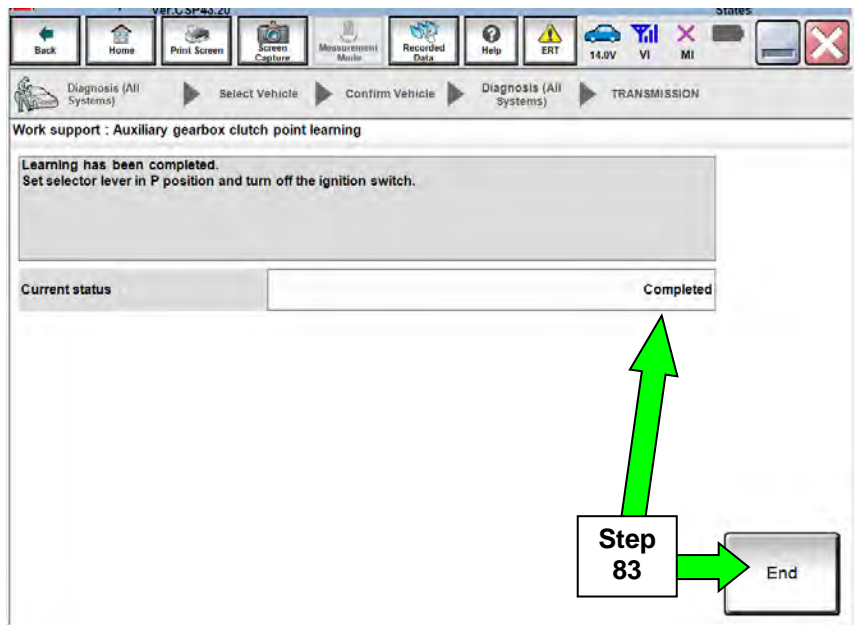

Figure 45
82. Continue to depress the brake pedal until the Current status shows “Completed” as shown in Figure 45 on the next page.